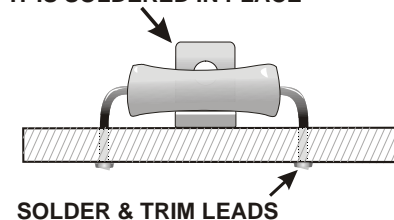

Figure 15. Spacing the 1-watt and 3-watt Resistors above the PCB.
- Install the 1-watt resistors listed below. Space each resistor about 1/16" (1.5 mm) above the PCB by placing the long end of one of the right-angle brackets between the resistor and PCB until the resistor is soldered in place (See Figure 15). The objective is to leave space for air to flow around the resistor. The resistors that should be spaced above the PCB are shown by a double silk screen outline.
- R21, 820 ohms (821), 1 watt next to Q6.